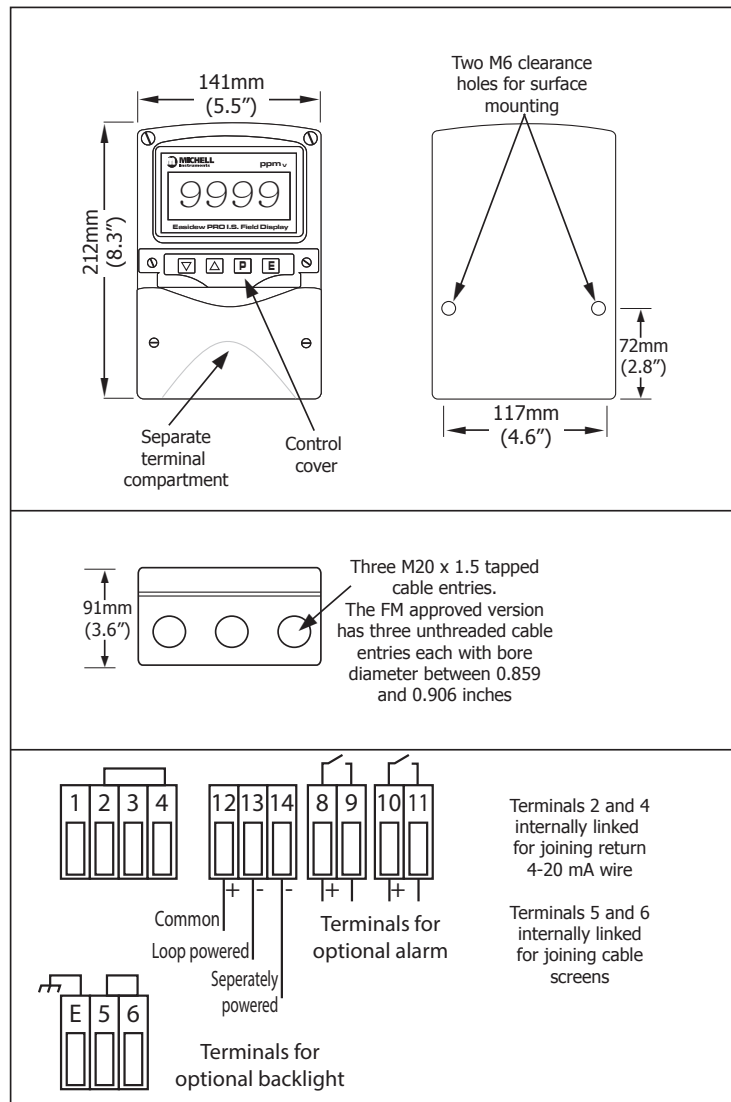

Figure 6 Dimensions & Terminal Connections
- d. Connect the field wiring to the terminals as shown in *Figure 6*.